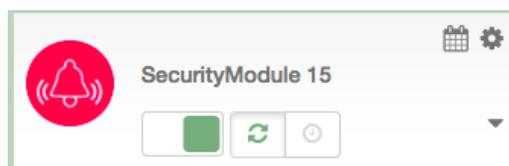

Figure 6.21: Security System in alarm status
- The element shows the alarm state with the red icon, as shown in Figure 6.21.